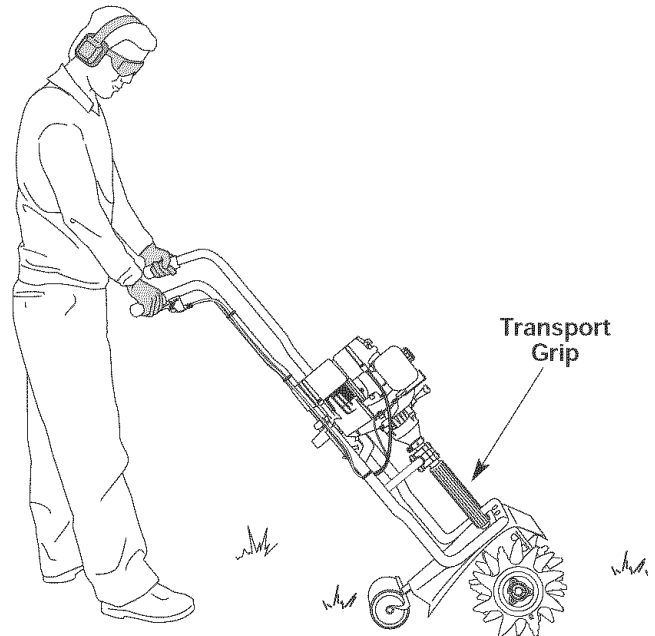

Fig. 11
4. Holding both of the handlebar grips firmly, slowly lower the cultivator until the tines make contact with the ground (Fig. 11).